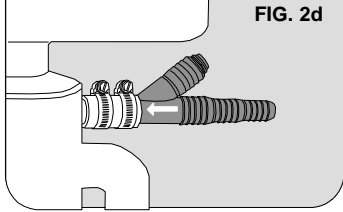

FIG. 2d
6. Point arrows of ET116-001 toward disposal and slide barbs into remaining one inch of the hose coupler until firmly seated against the disposal nipple. Orient the “wye branch” in a vertical position to receive RO drain tube. Tighten both hose clamps securely over hose coupler so that the ET116-001 is solidly mounted on disposal. (See Fig. 2d)